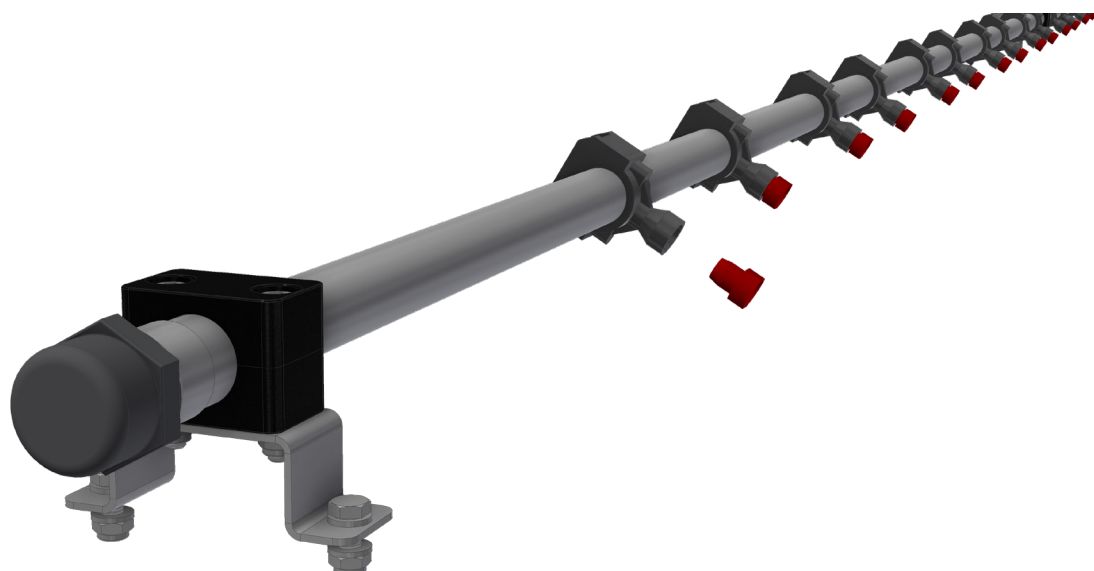

Figure 8.6 Nozzles on chemical ramp
1. Remove the nozzle by turning it a 1/4 turn anticlockwise (see Figure 8.6).